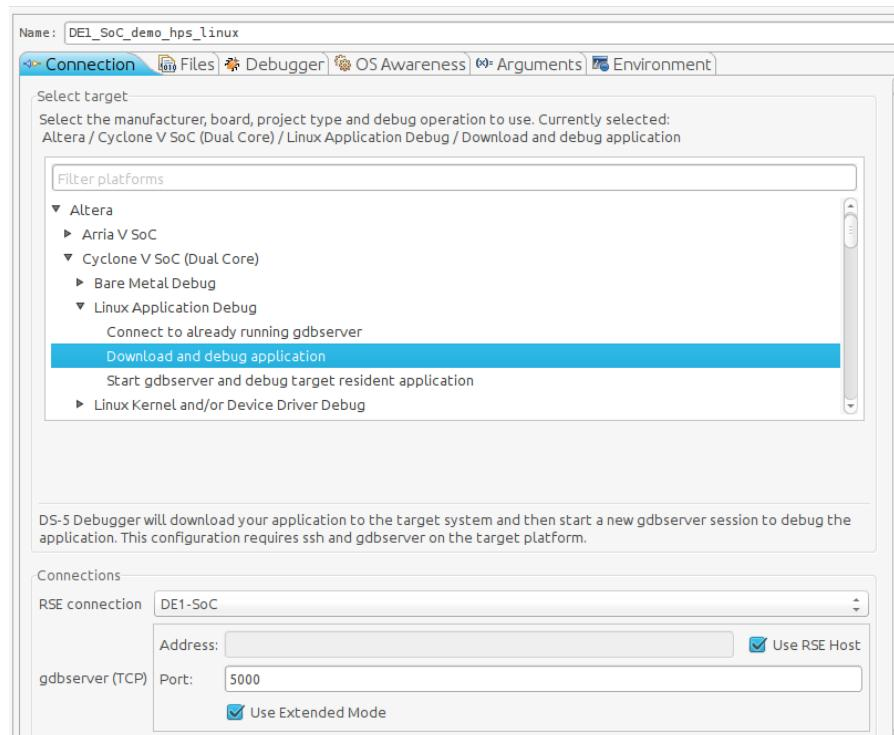

Figure 13-15. Debug Configuration “Connection” Tab
- b. Set the “RSE connection” to “DE1-SoC”. This is the remote system connection we created earlier. You should have something similar to Figure 13-15.